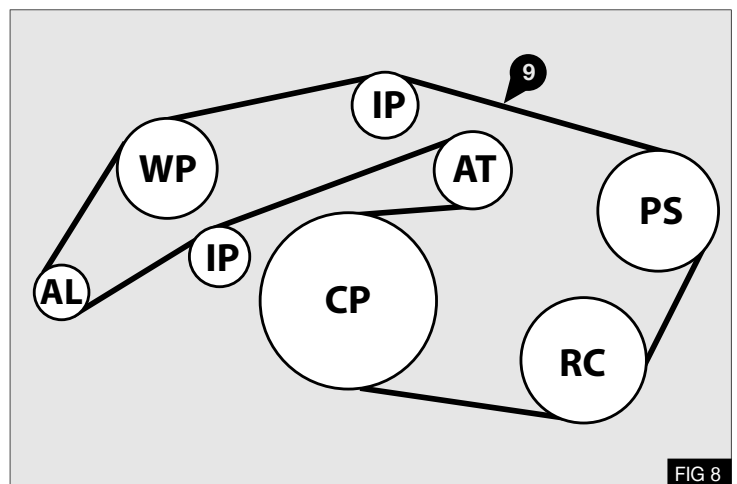

FIG 8
1. Fit the supplied replacement poly groove engine drive belt (9) to the engine in the configuration shown - Fig.8